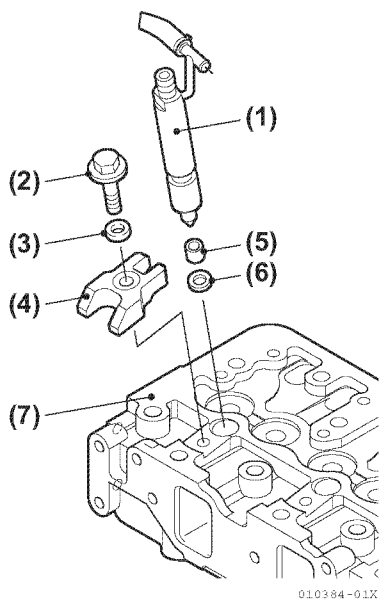

Figure 5-164
- Install the VE pump supports (Figure 5-164, (7)).